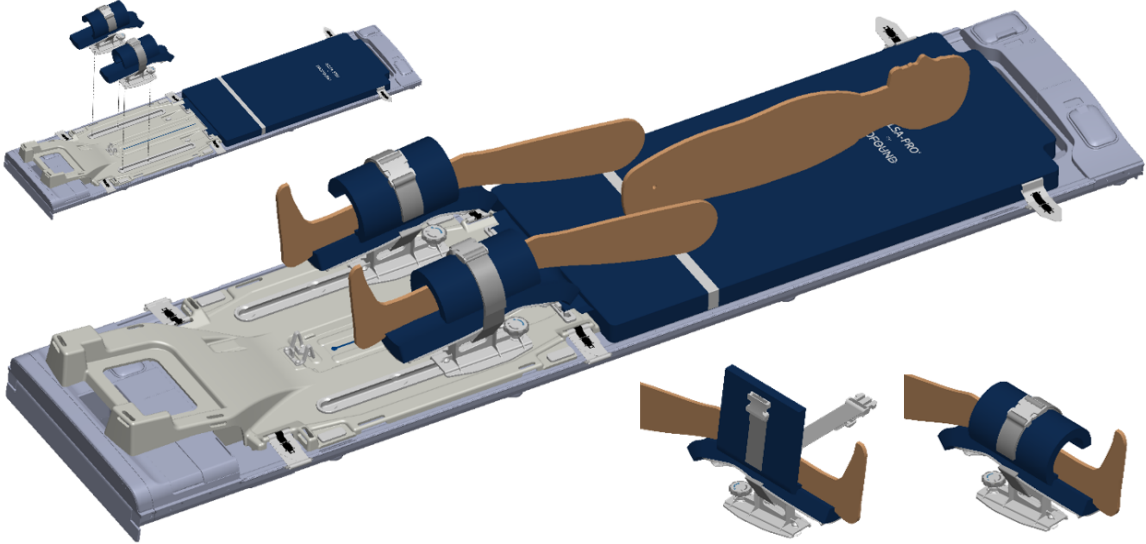

Figure 20: Initial patient positioning and attachment of leg supports
4. Have an assistant lift the patient's legs one at a time while you set up the leg supports (*Figure 20*):